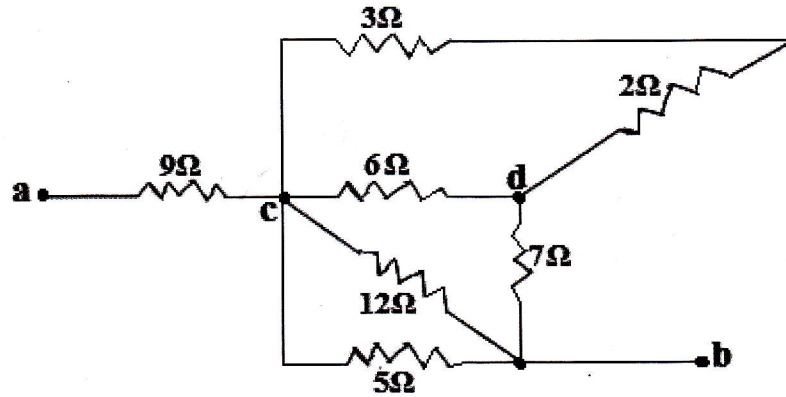

Figure 1
18. Find the equivalent resistance between points "a" and "b" for the combination shown in the figure 1, below. **10marks**